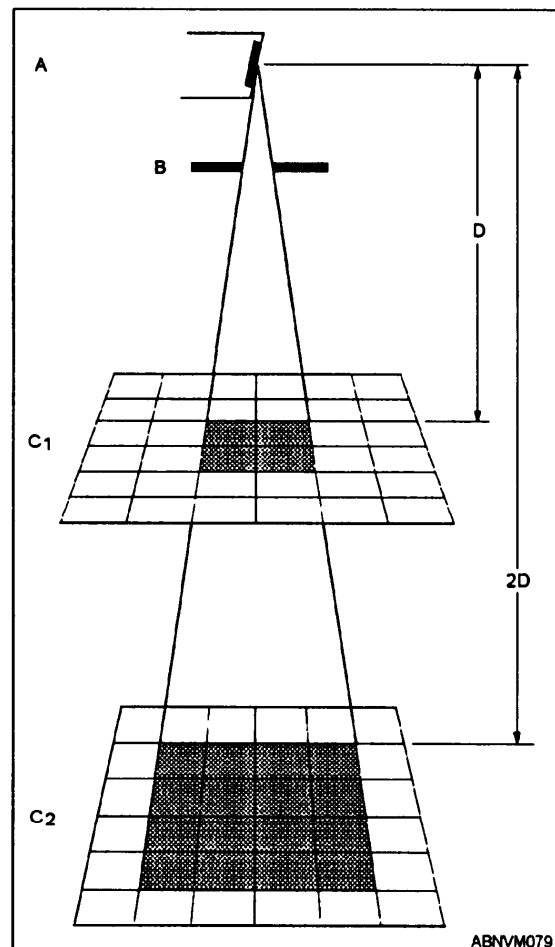

Figure 11-5.—Diagram illustrating inverse square law.
The best radiation safety precaution is distance between personnel and the radiation source. This is true because the intensity of radiation varies inversely with the square of the distance from the radiation source. X rays, like a beam of light, cover an increasingly larger area with lessened intensity as they travel from the source. This principle, known as the inverse square law, is illustrated in figure 11-5. When the distance (D) from the radiating source is doubled (2D), the area covered by the beam (C1) is quadrupled (C2). At the same time, though, the intensity per unit of area is only one-quarter of the value at the original distance. Thus, with sufficient distance, the area covered by the beam may be tremendously large, but its intensity per unit area will